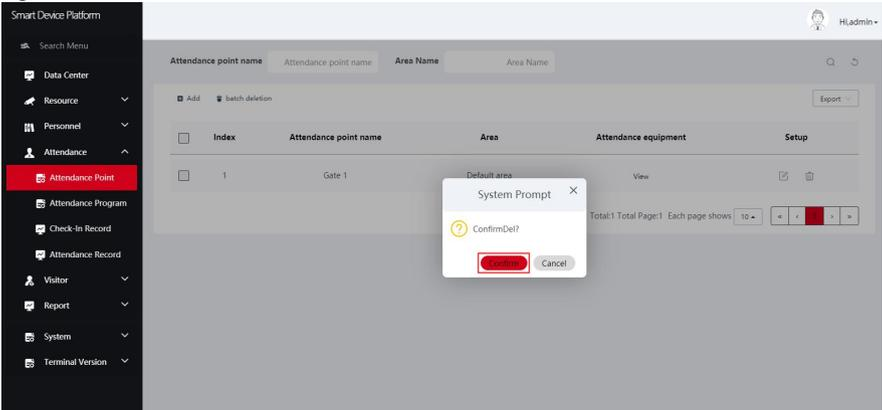

Figure 5-90
Step 2: Click "  →OK" to complete the attendance point to be deleted, as shown in Figure 5-90.